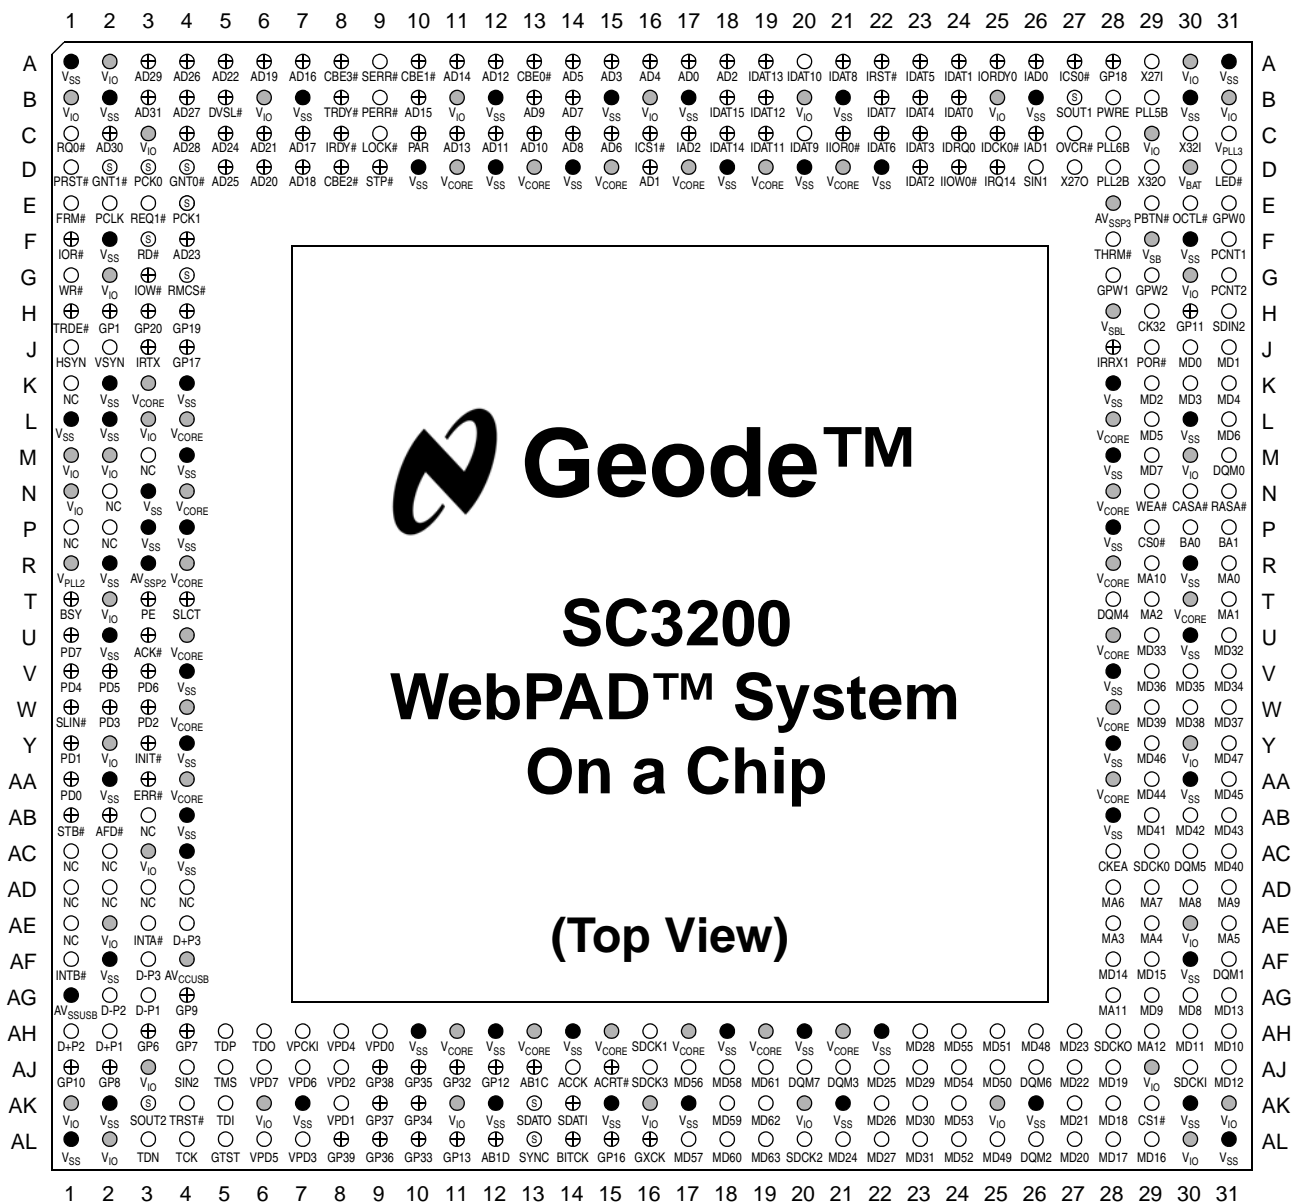

Figure 2-2. 432-EBGA Ball Assignment Diagram
- Figure 2-2 on page 21 and Figure 2-3 on page 36: Illustrations of EBGA and TEPBGA ball assignments.